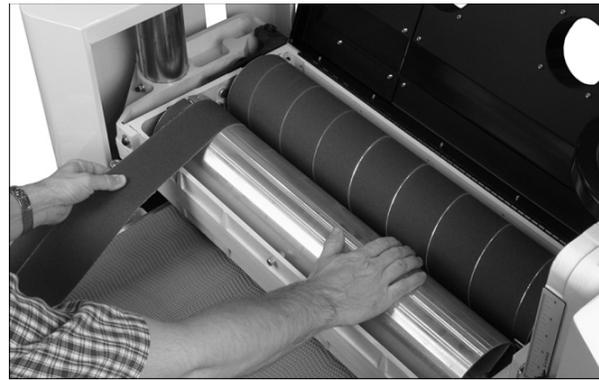

Figure 9
4. Continue to wrap abrasive in spiral fashion by rotating drum with one hand and guiding strip with the other (Figure 9). Successive windings of the strip should be flush with previous windings without any overlap.